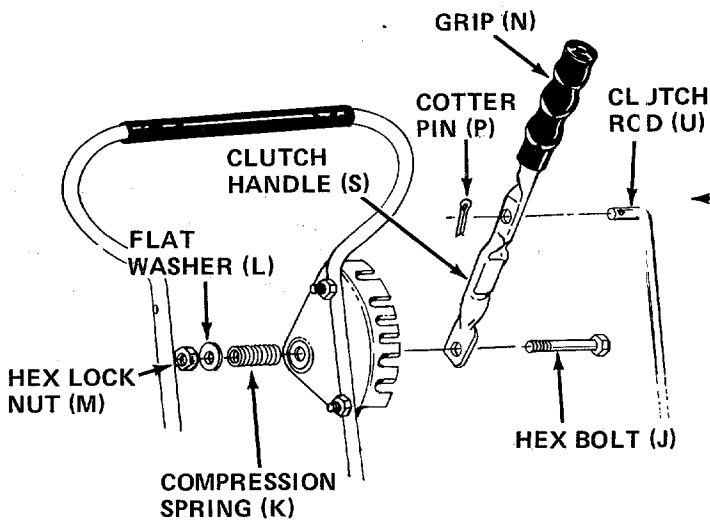

FIGURE 7
- Place hex bolt (J) through bottom hole in clutch handle as shown in figure 7, then through hole in adjustment bracket.
- Secure hex bolt with compression spring (K), flat washer (L) and hex lock nut (M) on the inside of the adjustment bracket.
- Secure bent end of clutch rod to clutch handle with cotter pin (P). See figure 7.
- Slip the handle grip (N) on the end of the clutch handle. It will slip on more easily if it is first soaked in warm, soapy water.